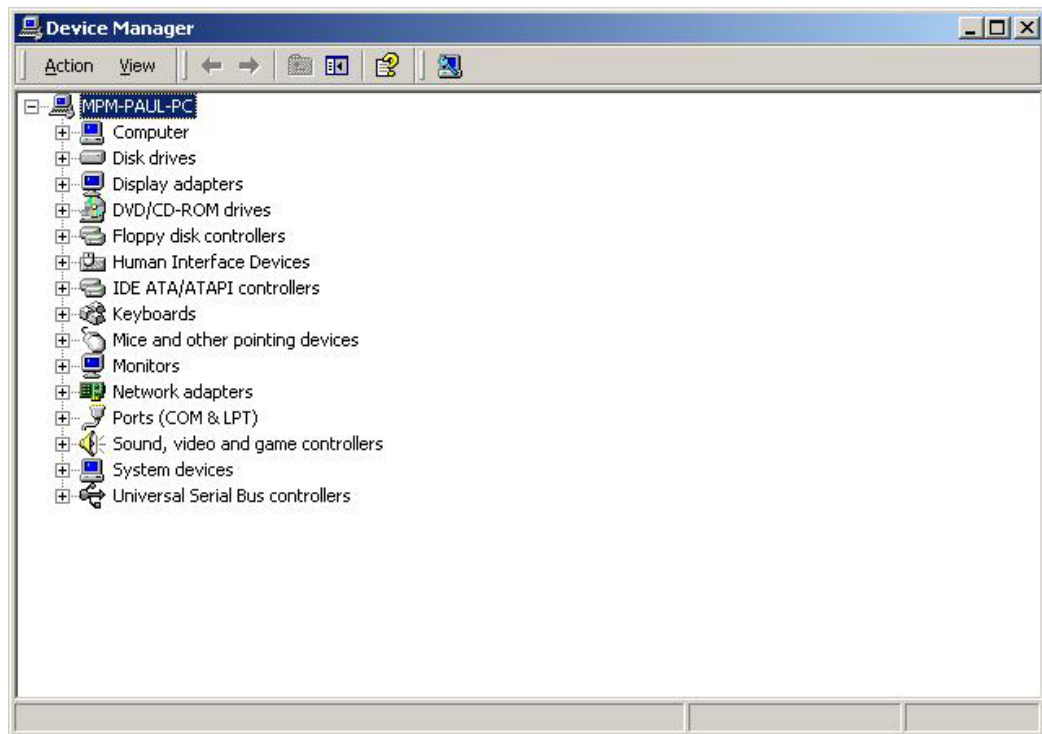

Figure 6-6: Device Manager List
Step 4: A list of system hardware devices appears (Figure 6-6).